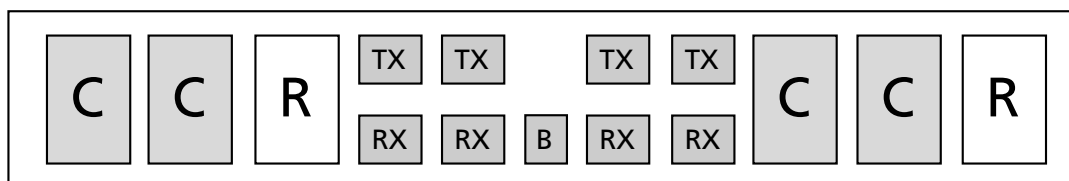

**Figure 1-4 • AX SuperCluster**
Two C-cells, a single R-cell, two Transmit (TX), and two Receive (RX) routing buffers form a Cluster, while two Clusters comprise a SuperCluster (Figure 1-4). Each SuperCluster also contains an independent Buffer (B) module, which supports buffer insertion on high-fanout nets by the place-and-route tool, minimizing system delays while improving logic utilization.